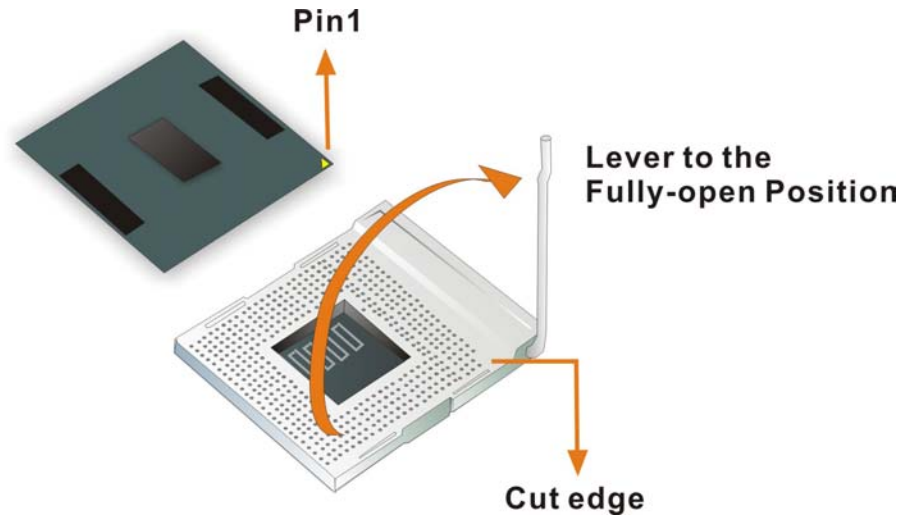

Figure 4-1: Install the CPU
- Step 2:** **Open the CPU socket lever.** Disengage the load lever by pressing the lever down and slightly outward to clear the retention tab. Rotate the load lever to a fully open position. (See **Figure 4-1**)
- Step 3:** **Orientate the CPU properly.** Make sure the IHS (Integrated Heat Sink) side is facing upward. (See **Figure 4-1**)
- Step 4:** **Correctly position the CPU.** Match the Pin 1 mark with the cut edge on the CPU socket. (See **Figure 4-1**)